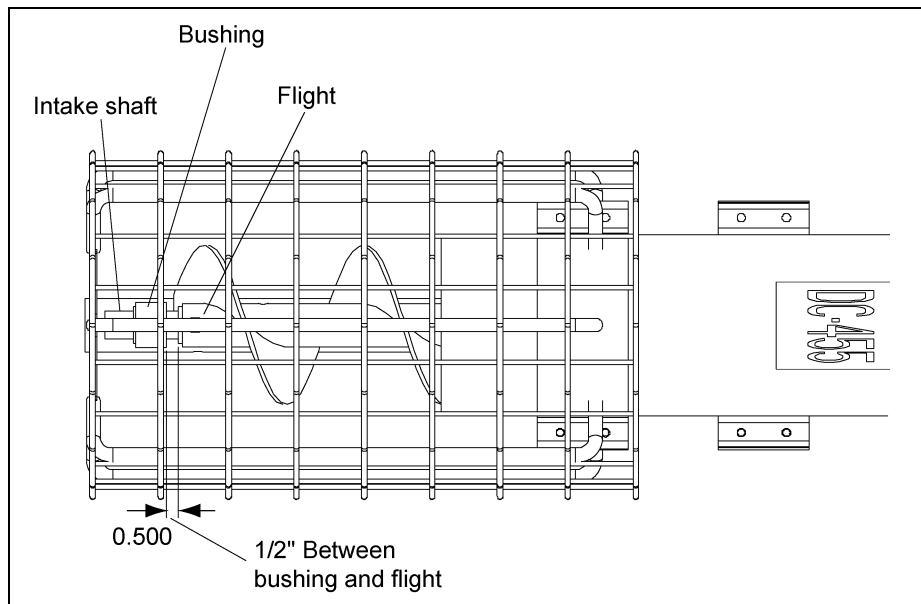

Figure 4W
2. With the intake shaft inserted in the bushing make sure to leave approximately 1/2" of clearance between the end of the flight and the face of the bushing. (See Figure 4W.)